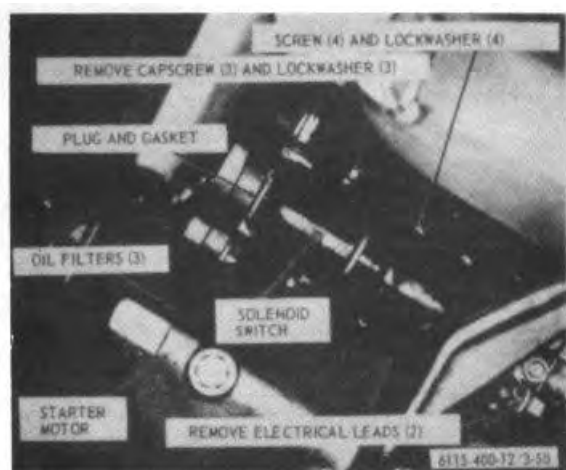

Figure 3-50. Starter motor and solenoid switch, removal and installation.
b. Removal and Installation. Refer to figure 3-50 and remove starting motor and solenoid switch from engine as an assembly.
c. Solenoid Switch Removal. Refer to figure 3-50 and remove solenoid switch from starting motor.